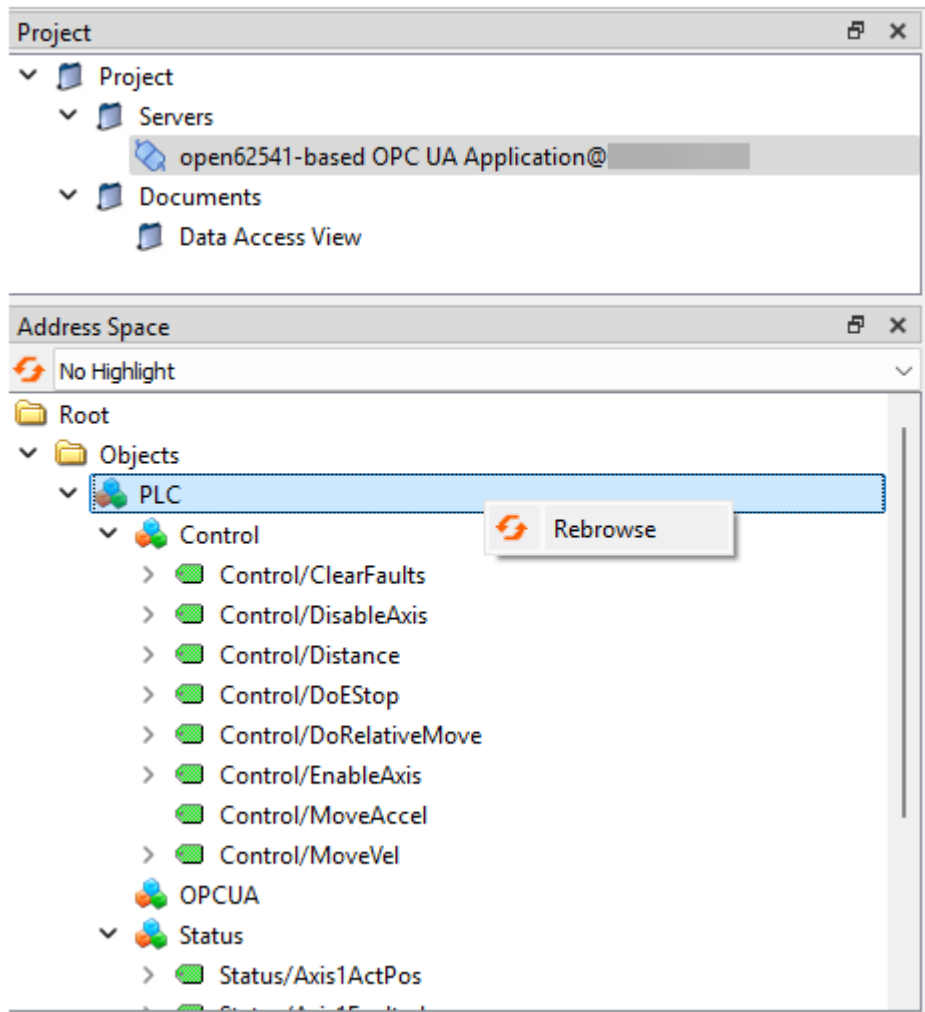

Figure 3-32: Rebrowse option
13. Select the PLC object and right-click to use **Rebrowse**. (Figure 3-32)